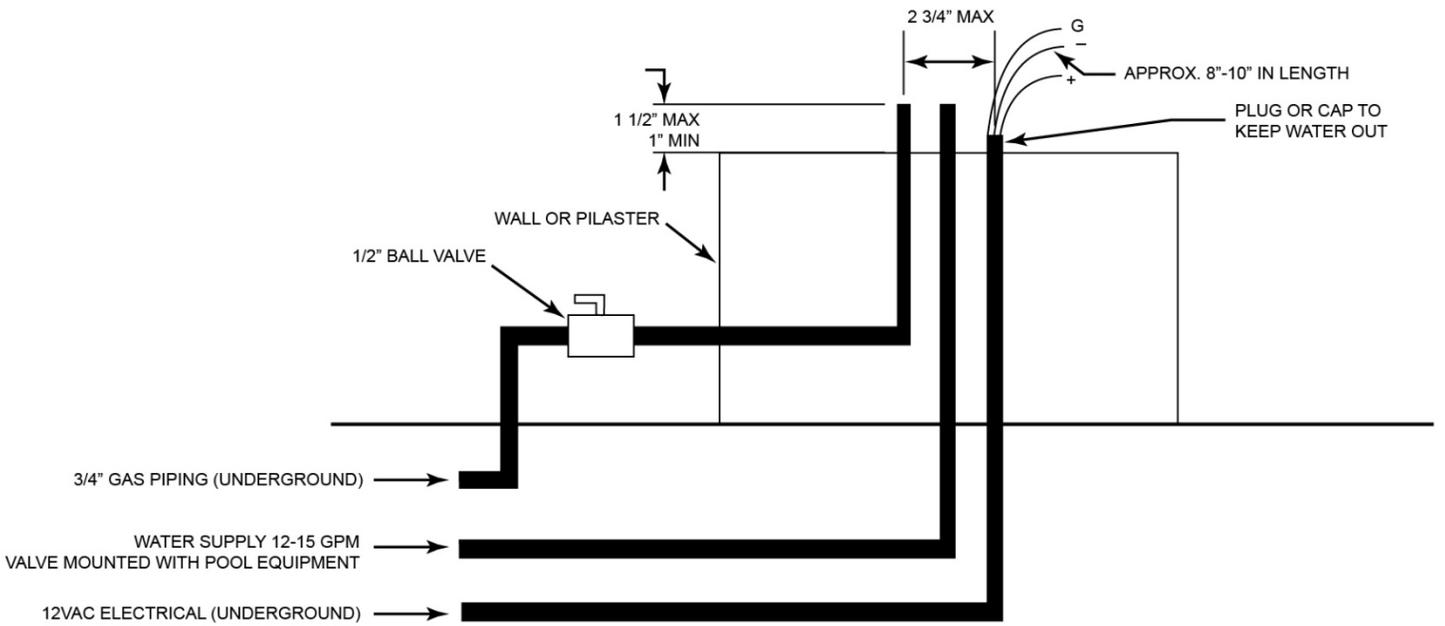

FIGURE 3: PIPING SETUP FOR BOWL
2. Piping must be reduced to ½ NPT or larger at each bowl, as shown in Figures 3 & 4.
3. At each fire/water bowl, install a 90° gas pipe elbow on the gas line for proper installation of a gas hose. Do not kink or make a tight radius bend on the gas hose. Note: The gas, electrical, and water connection at each bowl must be located at the center of each bowl. The connections must be installed as shown in Figures 3 & 4.